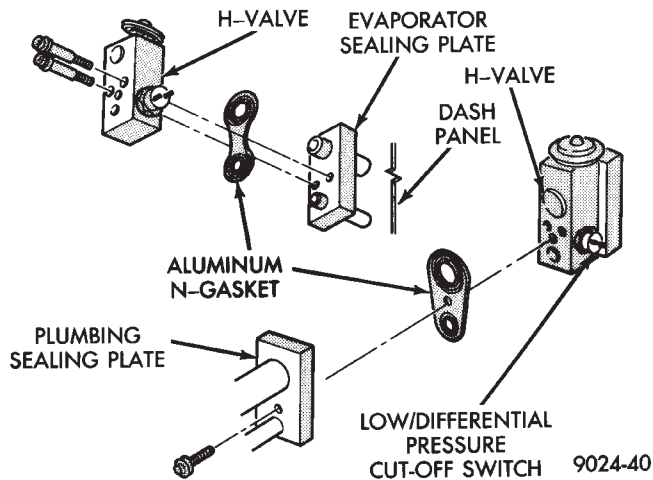

Fig. 15 Expansion Valve
(1) Remove the boot-type wire connector from the pressure cut-off switch.
(2) Remove the attaching bolt in center of refrigerant line-plumbing sealing plate (Fig. 15).